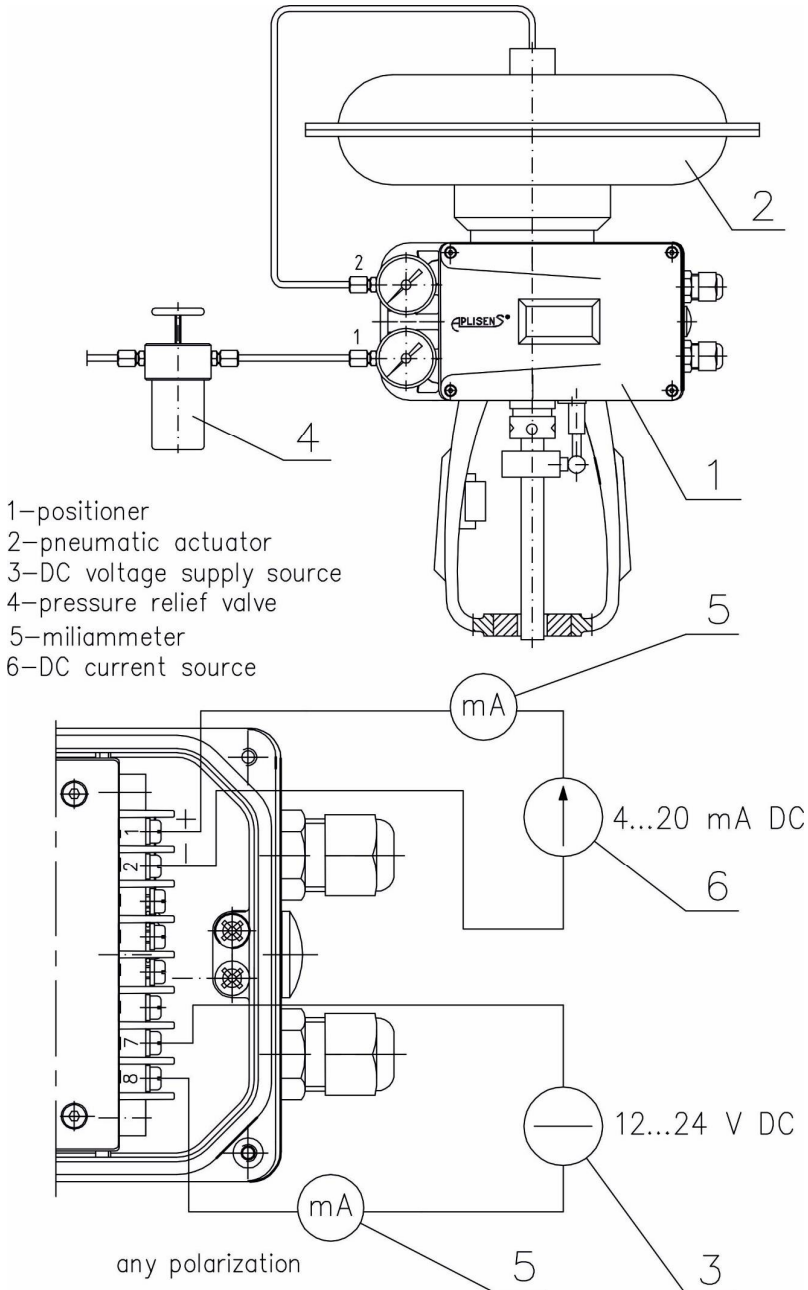

Fig. 17. Diagram of measuring circuit for starting APIS-1X0... positioner (single-acting membrane actuator)
- a) Positioner APIS-1X0-... installed on the actuator acc. to point 10.2...10.4. should be connected with the measuring system acc. to the diagram presented in Fig. 17.
- e) Current programming device item 6 – e.g.: Fig. 17 decrease input signal to 4 ± 0.01 mA DC; The following will appear on the display e.g.: